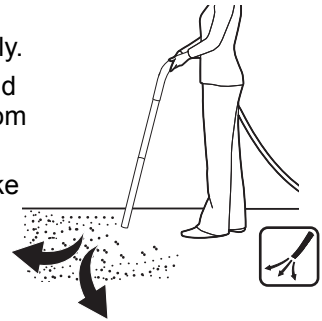

Fig. 26
- > Attach the extension tube(s) (17) onto the hose handle (16a) if required.
- > Hold the hose approximately 10 cm above the ground and walk slowly forward using a sweeping motion from side to side (Fig. 26).